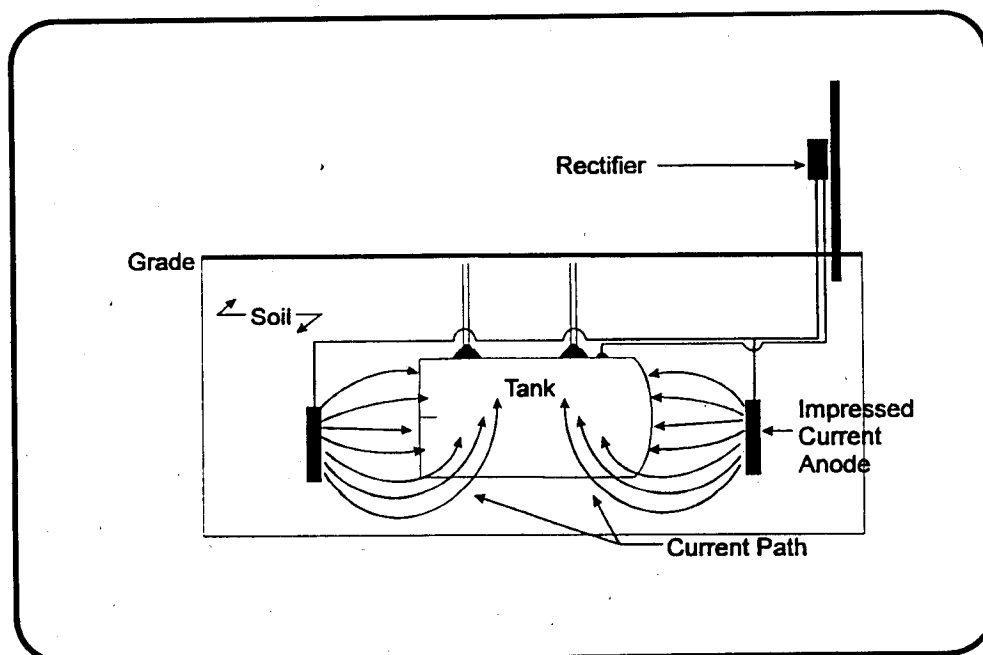

Figure 2
- **Impressed current** (*Figure 2*) is a corrosion protection system that introduces an electric current through a rectifier into the ground through a series of anodes that are not attached to the underground storage tank (UST). This current is sent through an insulated wire to the anodes, then flows through the soil to the underground tank system, and returns to the rectifier through an insulated wire attached to the UST. The UST system is protected because the current going to the UST system overcomes the corrosion-causing current normally flowing away from it.